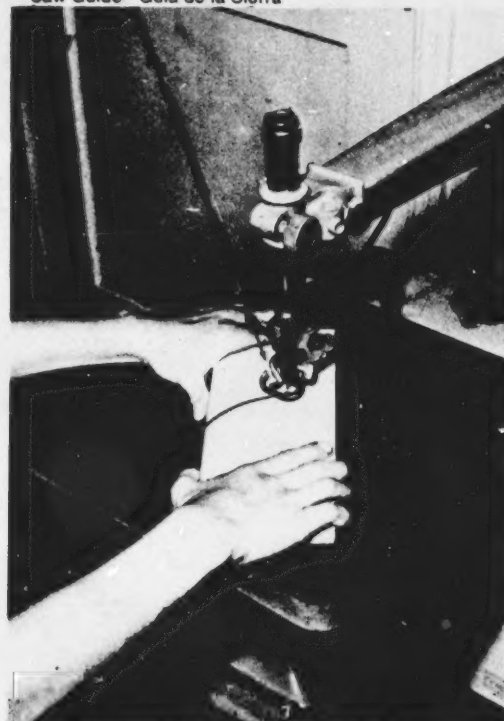

Figure 16-2 Hold the stock with both hands
2. Hold the stock to be cut with both hands (*Figure 16-2*).